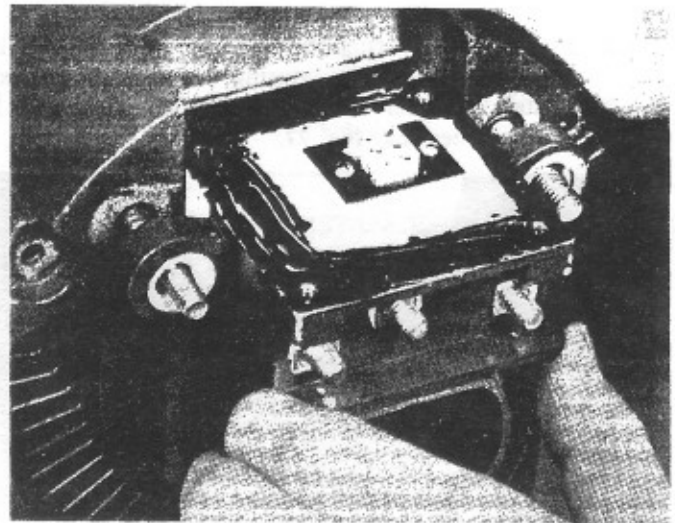

Figure 31
- 3.24 Route connector assembly leads through SRE housing opening and position regulator holder on alternator so output terminals pass through mounting ears. Fig. 31.